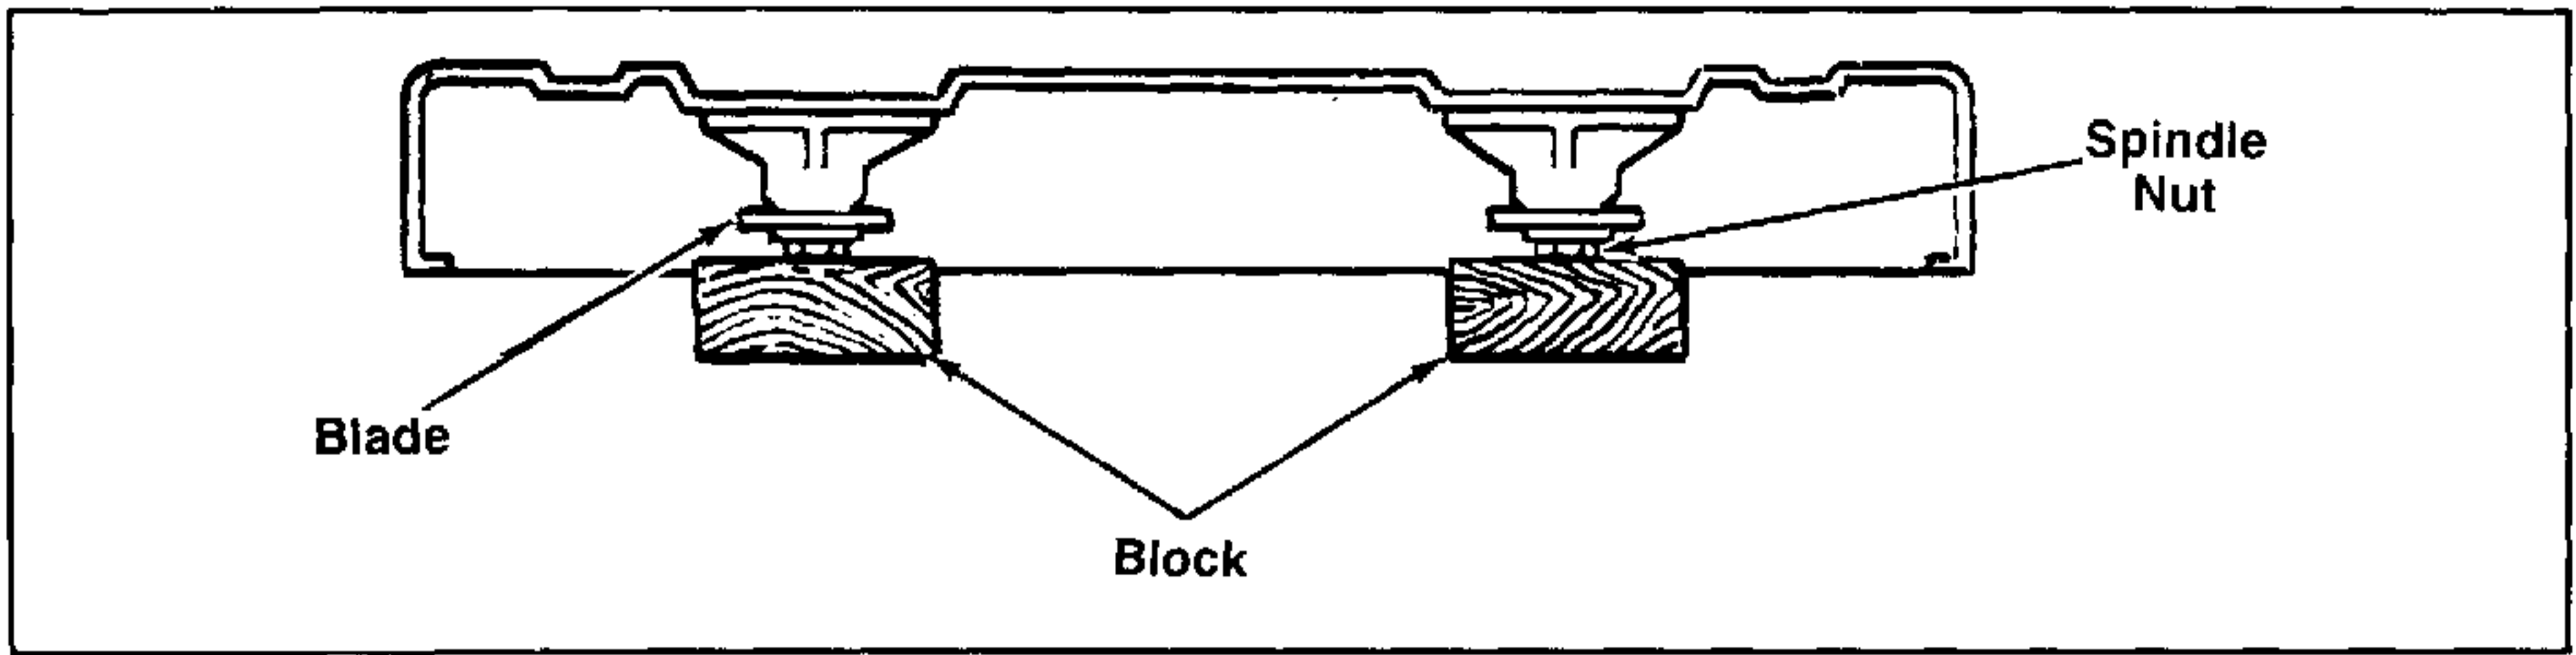

FIGURE 7.
6. Refer to figure 7. Lift the front end of the deck, and set the outside spindle nut on the face of the six inch long 2 x 4 inch wooden block (obtained from a wooden building stud). Repeat this step for the left spindle.